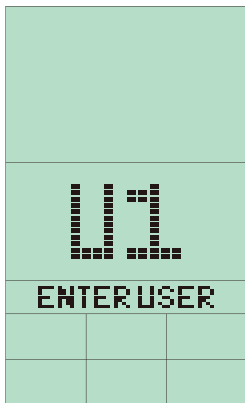

FIGURE 3
- (1) Turn the Toggle Wheel to select User 1~4 and press ENTER for confirmation. (FIGURE 3~4).